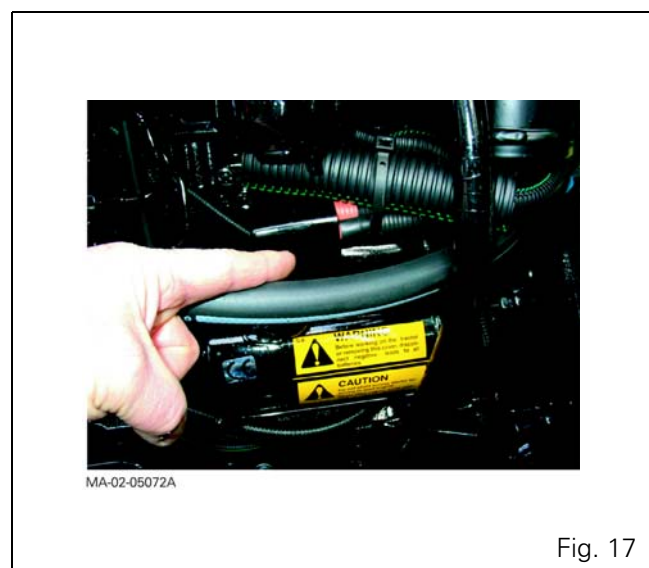

Fig. 17
40. Disconnect the cables connected to the starter positive terminal (Fig. 17).